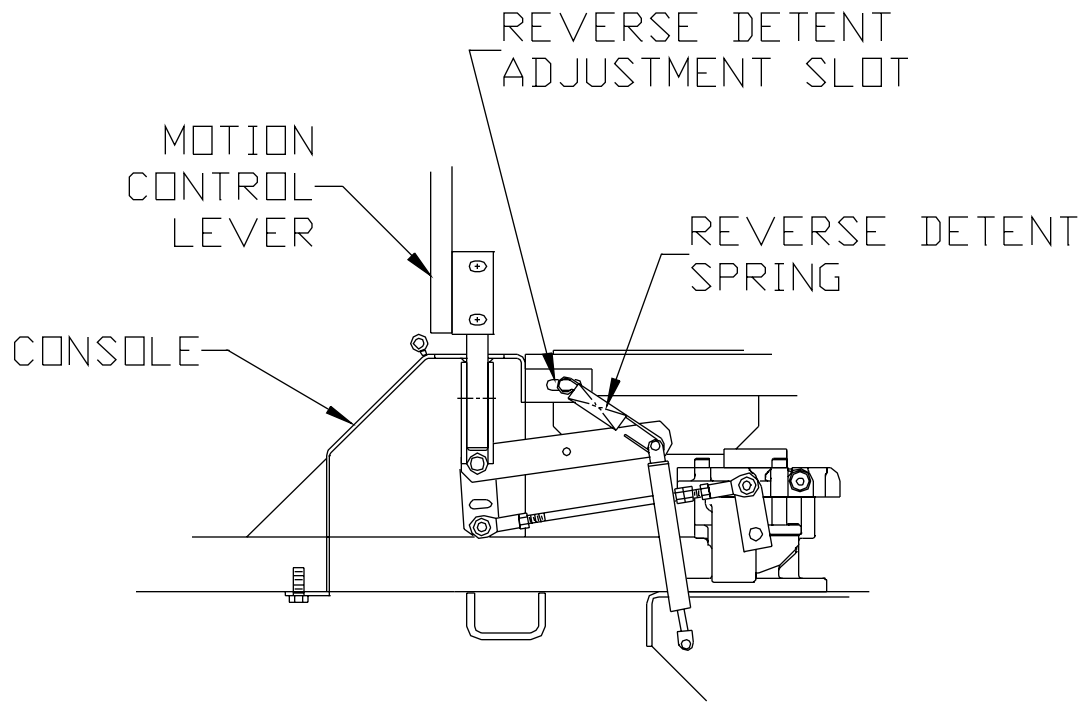

Figure 5a
4. On the back of the console where the spring is fastened. Loosen 3/8" nut and bolt enough to allow the bolt to slide in the slot. (See Fig. 5a)
5. Rotate the motion control lever out into the neutral slot. While the lever is swung out pull it against the back edge of the neutral slot. Holding the lever adjust the spring by sliding the bolt in the slot to remove all the slop and retighten the 3/8" nut and bolt. (Repeat steps on other side if needed.) (See Fig. 5a)